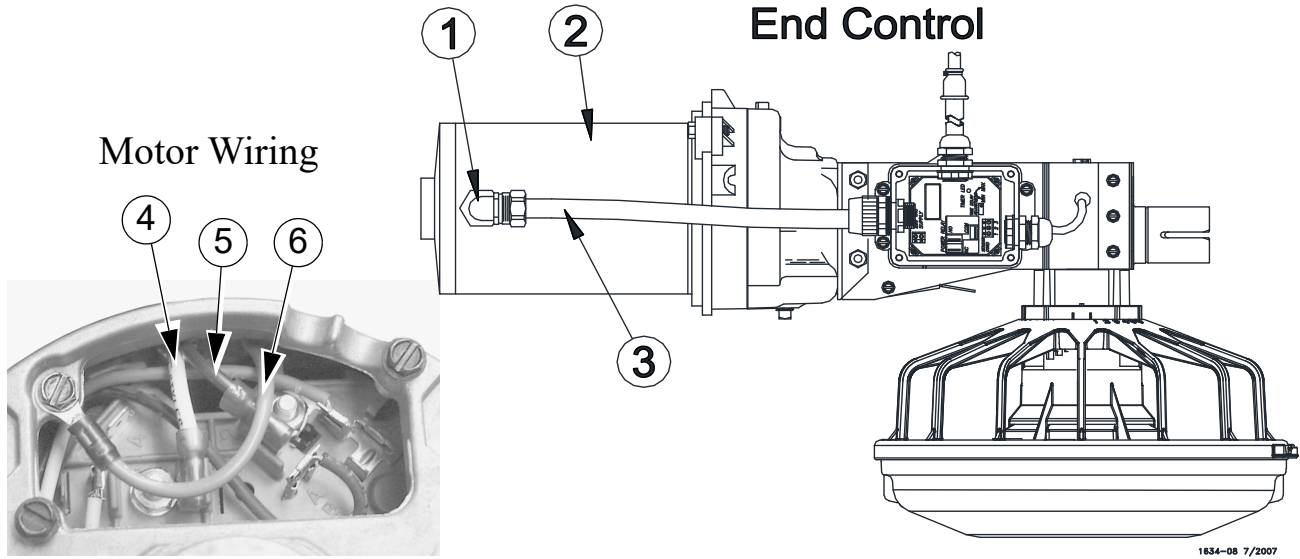

Figure 39. Wiring the Motor
8. Install the Metal Water Tight Connector (item 1) in the Feed Line Motor (item 2). Cut the Flex Conduit (item 3) to length. Slide the wires from the end control through the Flex Conduit (item 3). Install the Flex Conduit (item 3) in the connectors. Connect the wires to the Feed Line Motor (item 2), see figure 39.